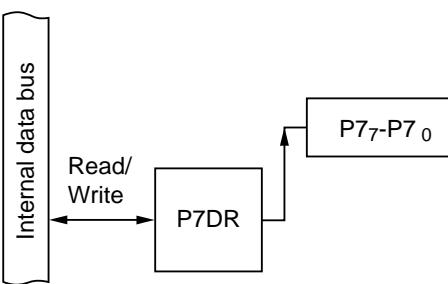

Figure 10-46 Output Port (Modes 1 to 7)
**(2) Output Port (Modes 1 to 7):** Figure 10-46 shows a block diagram illustrating the general-purpose output function. Table 10-36 indicates register read/write data. The value written in the port 7 data register (P7DR) is output at the pin. When read, P7DR returns the value written in P7DR.